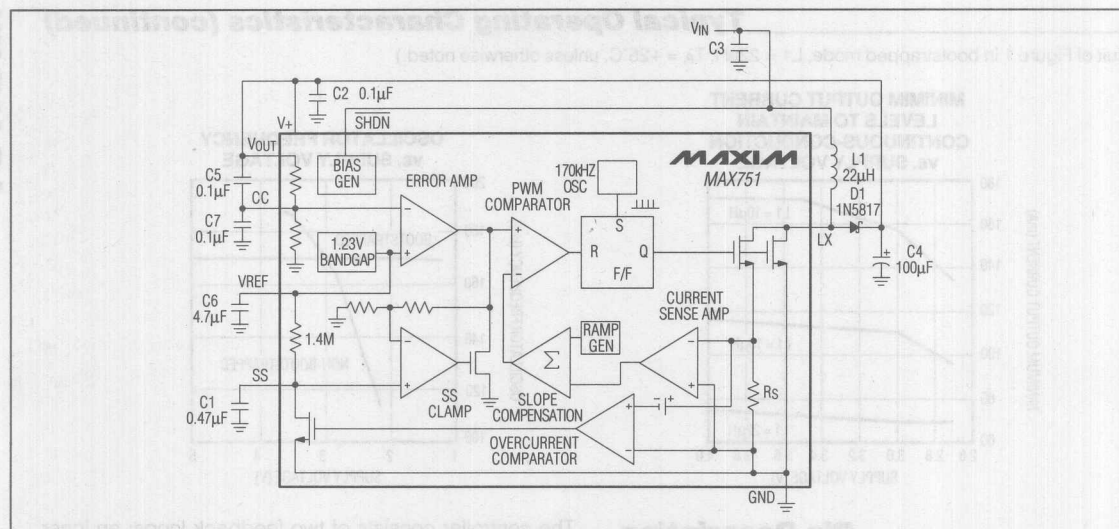

Figure 1. Detailed Block Diagram with External Components, Bootstrapped Mode
(Circuit of Figure 1 in bootstrapped mode, $L_1 = 22\mu\text{H}$, $T_A = +25^\circ\text{C}$, unless otherwise noted.)
The controller consists of two feedback loops: an inner (current) loop that monitors the switch current through the current-sense resistor (R_S) and amplifier, and an outer (voltage) loop that monitors the output voltage with an error amplifier (Figure 1). The inner loop performs cycle-by-cycle current limiting, truncating the power transistor on time when the switch current reaches a threshold determined by the outer loop. For example, a sagging output voltage produces an error signal that raises the threshold at the error amp output. This allows the inductor current (which generates the current-sense amp output voltage) to increase, resulting in more energy stored and transferred during each cycle.
The Soft-Start (SS) pin limits power-up current, allowing proper start-up with a load on the output. On power-up, the MAX751 uses the maximum switch duty cycle to draw excessive current to charge the output filter capacitor, and supply current to the load. In this case, the device may stall and the output voltage will not rise to 5V. A capacitor (between 0.047µF and 5µF) is required on SS to ensure proper start-up. The larger the capacitor, the slower the internal current-limit threshold is raised, allowing more time for start-up. As the voltage on the SS pin increases, the voltage at the SS clamp output increases, which in turn increases the current-limit threshold (Figure 1).
Use a Schottky diode with a continuous-current rating of at least 500mA for full-load (≥ 200 mA) operation. The 1N5817 is a good choice. The two compensation capacitor values at the CC input are critical because they have been selected to provide the best transient response. The input capacitor (C3 in Figures 1, 2, and 4) may be omitted if the power supply impedance is very low. Otherwise, up to 100 μ F may be necessary.
The power-up SS charge rate is determined by the time constant formed by the SS capacitor and the internal $1.4M\Omega \pm 25\%$ resistor between VREF and SS (Figure 1).